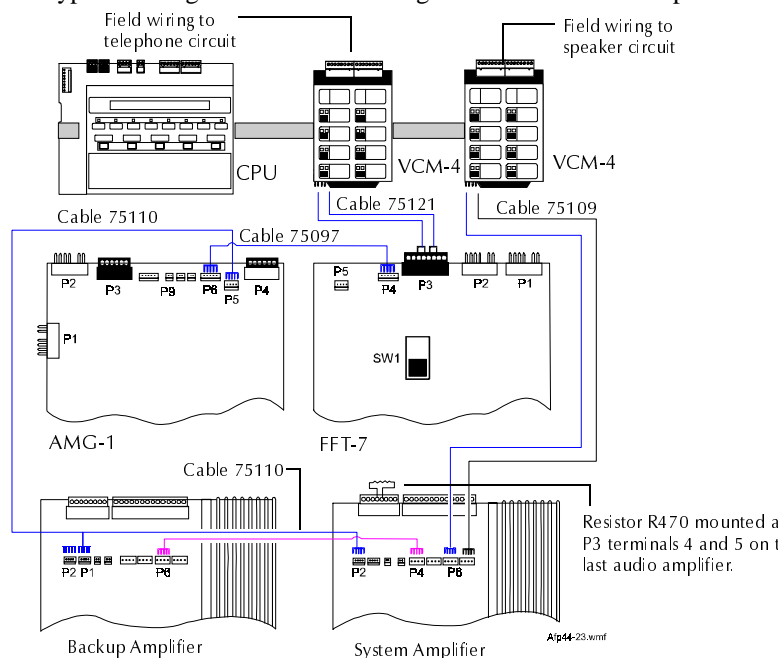
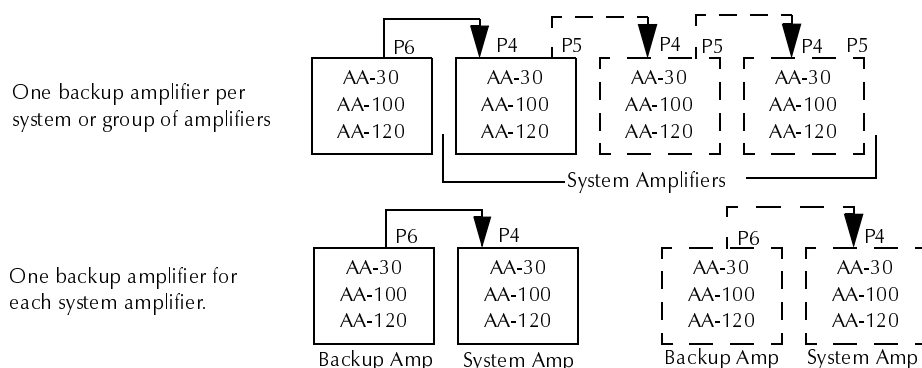

Figure 4-27 Wiring an Audio Signal with a Backup Amplifier
Figure 4-28 Backup Amplifier Block Diagrams
Audio Signal Wiring Using a Backup Amplifier	Figure 4-27 on page 4-24 Figure 4-28 on page 4-24
Figure 4-27 and Figure 4-28 show speaker wiring using two AA-30s with a backup AA-30. Table 4-17 lists the inventory for wiring the speakers.
2. Mount resistor R470 across P3-4 and P3-5 on the last amplifier (Figure 4-27).
Figure 4-27 shows typical wiring of two AA-30s using one AA-30 as a backup:
Figure 4-28 shows two simplified block diagrams for using a backup amplifier: